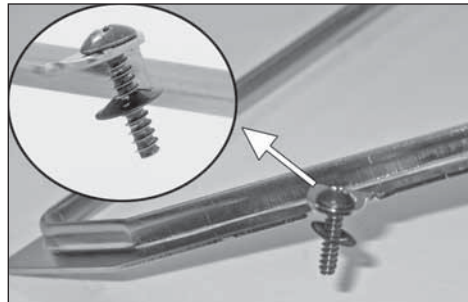

Fig 2.
3. Install the stock screw into provided steel filter plate and then install provided washer ensuring rounded side of washer sits against steel filter plate. Washer only needs to be threaded approximately half way onto screw. Repeat for other side of filter plate. (Fig.2)